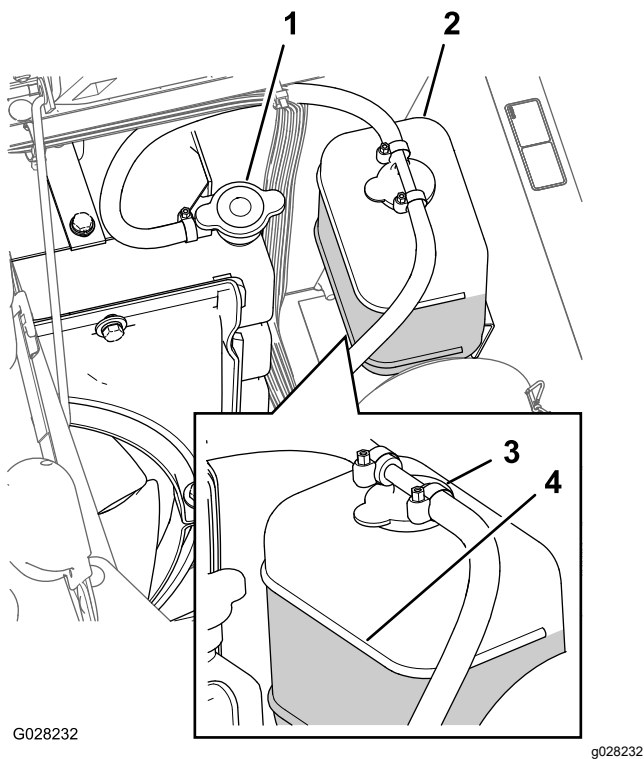

Figure 93
3. Carefully remove the radiator cap and the expansion-tank cap (Figure 93).
Note: The radiator should be filled to the top of the filler neck and the expansion tank filled to the Full mark on the tank (Figure 93).
5. If the coolant level is low, remove the expansion-tank cap and the radiator cap, and fill the expansion tank to the Full mark and the radiator to the top of the filler neck (Figure 93).
6. Install the radiator cap and the expansion-tank cap (Figure 93).
2. Wait until the engine is cool, then remove the radiator cap (Figure 93).
6. Remove the radiator cap (Figure 93).
8. Start the engine with the cap loose on the radiator (Figure 93).
10. Once the coolant has warmed up, top off the coolant level to the sealing surface of the cap and tighten the cap (Figure 93).
11. Open the expansion-tank cap and fill the tank with coolant to the Cold level (Figure 93).